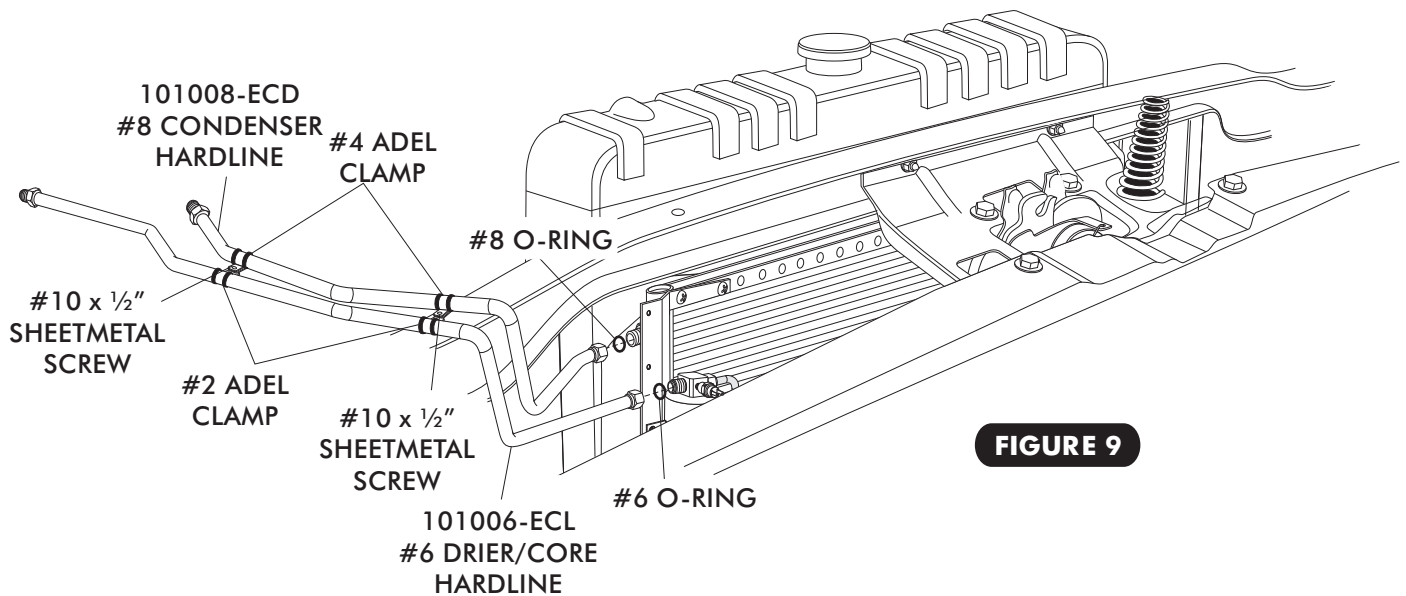

FIGURE 9
- PLACE (2) ADEL CLAMPS AROUND THE #6 DRIER HARDLINE AND THE #8 CONDENSER HARDLINE AS SHOWN IN FIGURE 9 BELOW.
- LUBRICATE A #6 AND #8 O-RING AS SHOWN IN FIGURE 3A ON PAGE 7. INSTALL THE #6 DRIER HARDLINE AND THE #8 CONDENSER HARDLINE AS SHOWN IN FIGURE 9 BELOW. TIGHTEN FITTING CONNECTIONS AS SHOWN IN FIGURE 3A ON PAGE 7.